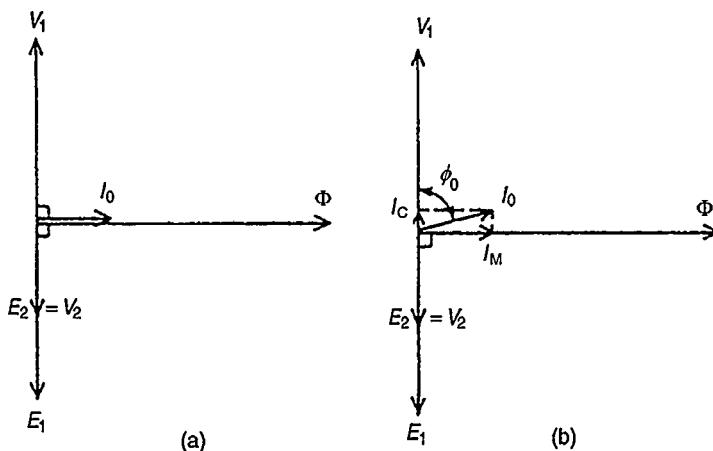

Figure 21.2
the primary winding takes a small no-load current I_0 and since, with losses neglected, the primary winding is a pure inductor, this current lags the applied voltage V_1 by 90° . In the phasor diagram assuming no losses, shown in Fig. 21.2(a), current I_0 produces the flux and is drawn in phase with the flux. The primary induced e.m.f. E_1 is in phase opposition to V_1 (by Lenz's law) and is shown 180° out of phase with V_1 and equal in magnitude. The secondary induced e.m.f. is shown for a 2:1 turns ratio transformer.
A no-load phasor diagram for a practical transformer is shown in Fig. 21.2(b). If current flows then losses will occur. When losses are considered then the no-load current I_0 is the phasor sum of two components—**(i) I_M , the magnetising component**, in phase with the flux, and **(ii) I_C , the core loss component** (supplying the hysteresis and eddy current losses). From Fig. 21.2(b):
- (c) From the right-angled triangle in Fig. 21.2(b) and using Pythagoras' theorem, $I_0^2 = I_c^2 + I_M^2$ from which, magnetising current,